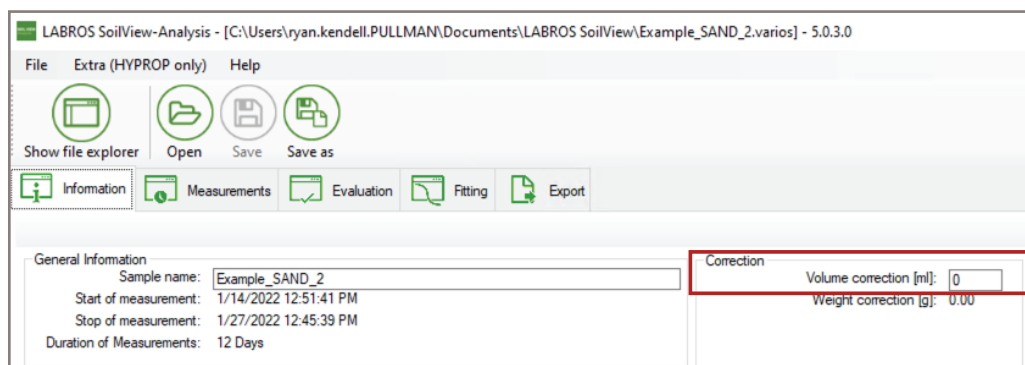

Figure 7 Volume correction in LABROS SoilView-Analysis software
5. Using the LABROS SoilView-Analysis software, enter the volume estimate in mL on the **Information** tab in the field provided for **Volume correction** (Figure 7).